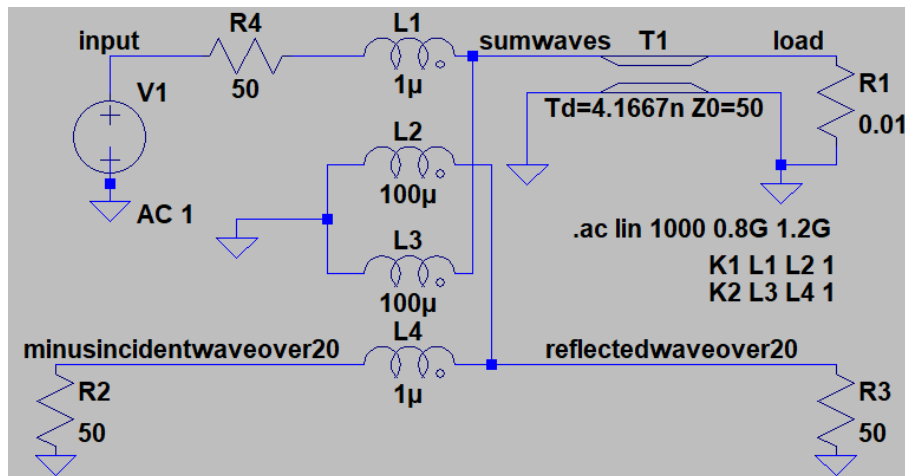

Figure 3: Simulated one-port vector network analyzer with directional coupler.
3. Figure 3 (below) is a starting point for simulating a VNA. The schematic uses ideal mutual inductance (the K statements) to represent the behavior of a directional coupler, a circuit element that separates forward and reverse waves. (We'll talk about these more in a few weeks.) The node labels indicate the wave voltages that will be observed on that node, so the reflectedwaveover20 node will display the reflected wave voltage scaled by a factor of 20. Build and simulate Figure 3.
3. Modify figure 3 to express each of the situations in theory question 1. Make sure simulations and analysis match.